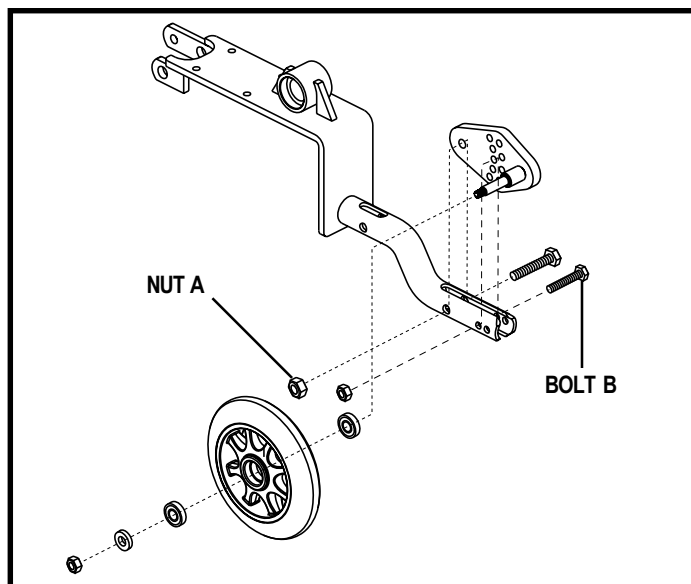

Figure 26. Anti-Tip Wheel Assembly
1. Loosen nut A. See figure 26.